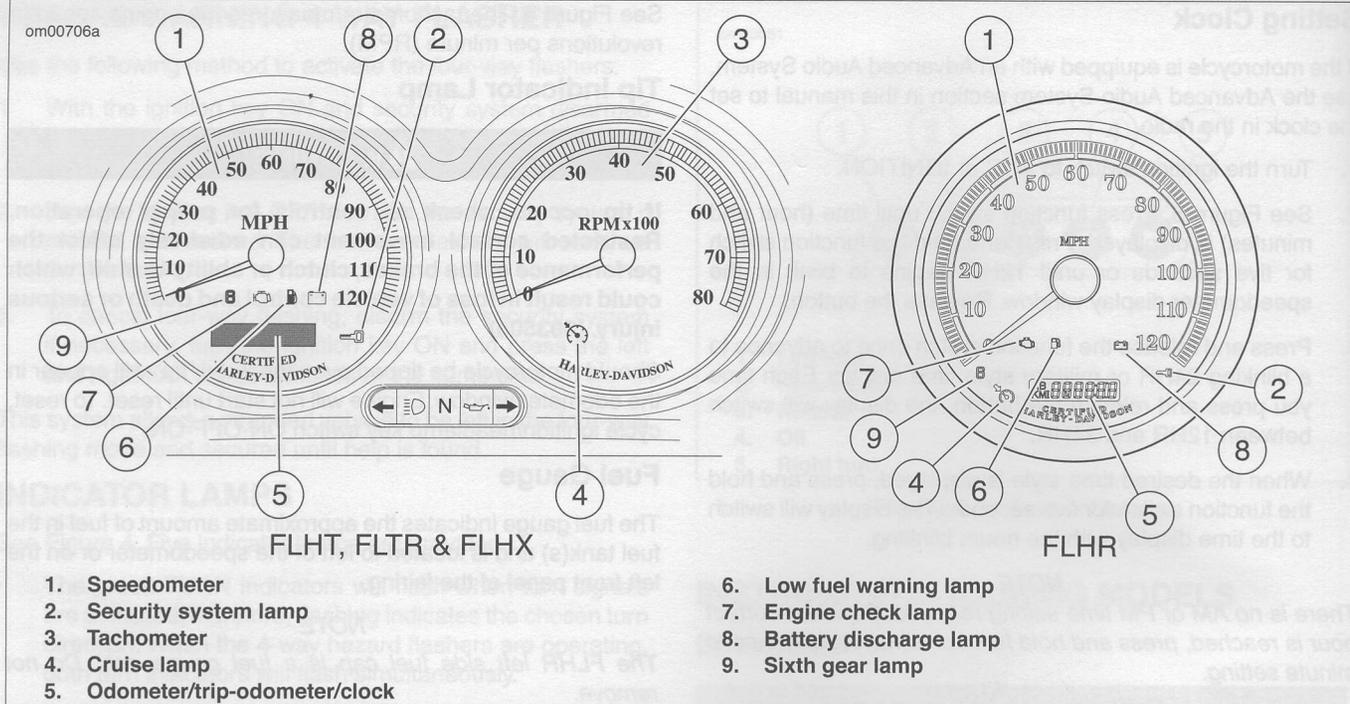

Figure 5. Indicator Lamps: Touring Models
See Figure 5. The speedometer registers kilometers per hour (international models) or miles per hour (U.S. models) of forward speed. The speedometer also provides the following selectable functions:
1. See Figure 5. Pressing the function switch with the ignition switch in any position will activate the odometer reading and time. Time and kilometers/mileage may be checked without unlocking ignition switch. Press and release function switch once to view odometer. Press and release switch again to display time.
2. See Figure 5. Press function switch until time (hour and minutes) is displayed. Press and hold the function switch for five seconds or until 12HR begins to blink in the speedometer display window. Release the button.
See Figure 5. The tachometer measures the engine speed in revolutions per minute (RPM).
See Figure 5. The engine check lamp is located near the lower left side of the speedometer (FLHT models) face or lower center of the speedometer (FLHR models) face. Its purpose is to indicate whether or not the engine/engine management system is operating normally. The engine lamp color is amber.
See Figure 5. The low fuel lamp is located in the speedometer face, lower center by check engine lamp. The low fuel lamp illuminates to indicate that you have approximately 3.8 liters (1 gallon) of gasoline left in the tank. The low fuel lamp color is amber.
See Figure 5. Cruise control equipped models feature two additional indicator lamps.
1. See Figure 5. Turn the cruise control switch to the ON position. The orange icon on the cruise gauge face will light when activated.